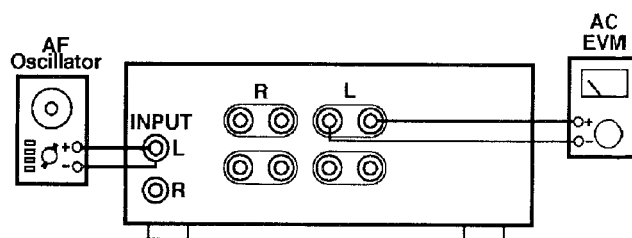

Fig. 1
- Test equipment connection is shown in Fig. 1.